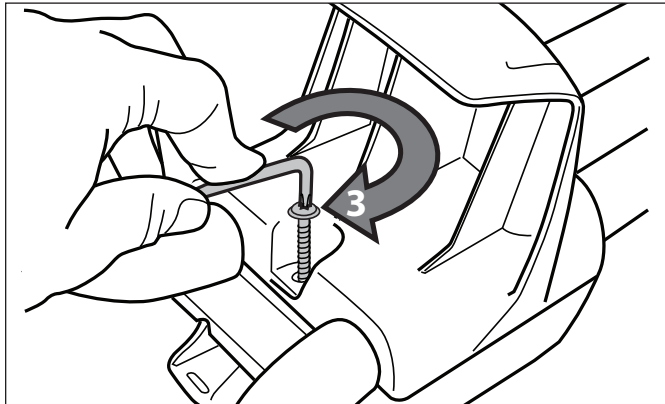

Figure 3. Install the Power Cable Hook and Power Supply Hook
- Secure the power cable hook and power supply hook around the tubes using a screw and hand tighten with the Torx® wrench (supplied with unit). Refer to Figure 3.